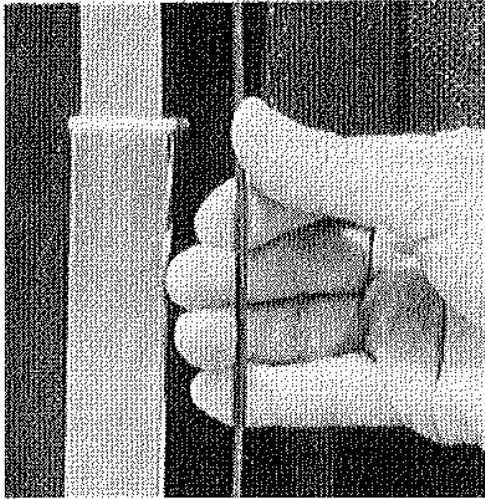

Fig. 3
3. Push toggle switch "up" to initialize power and raise roof. Continue to hold the toggle switch up until the gray limit cable is **ALMOST** taut. See figure 3 in your owner manual.
8. Now, complete raising roof until gray limit cable is snug. **DO NOT OVER-TIGHTEN.** Fig 3